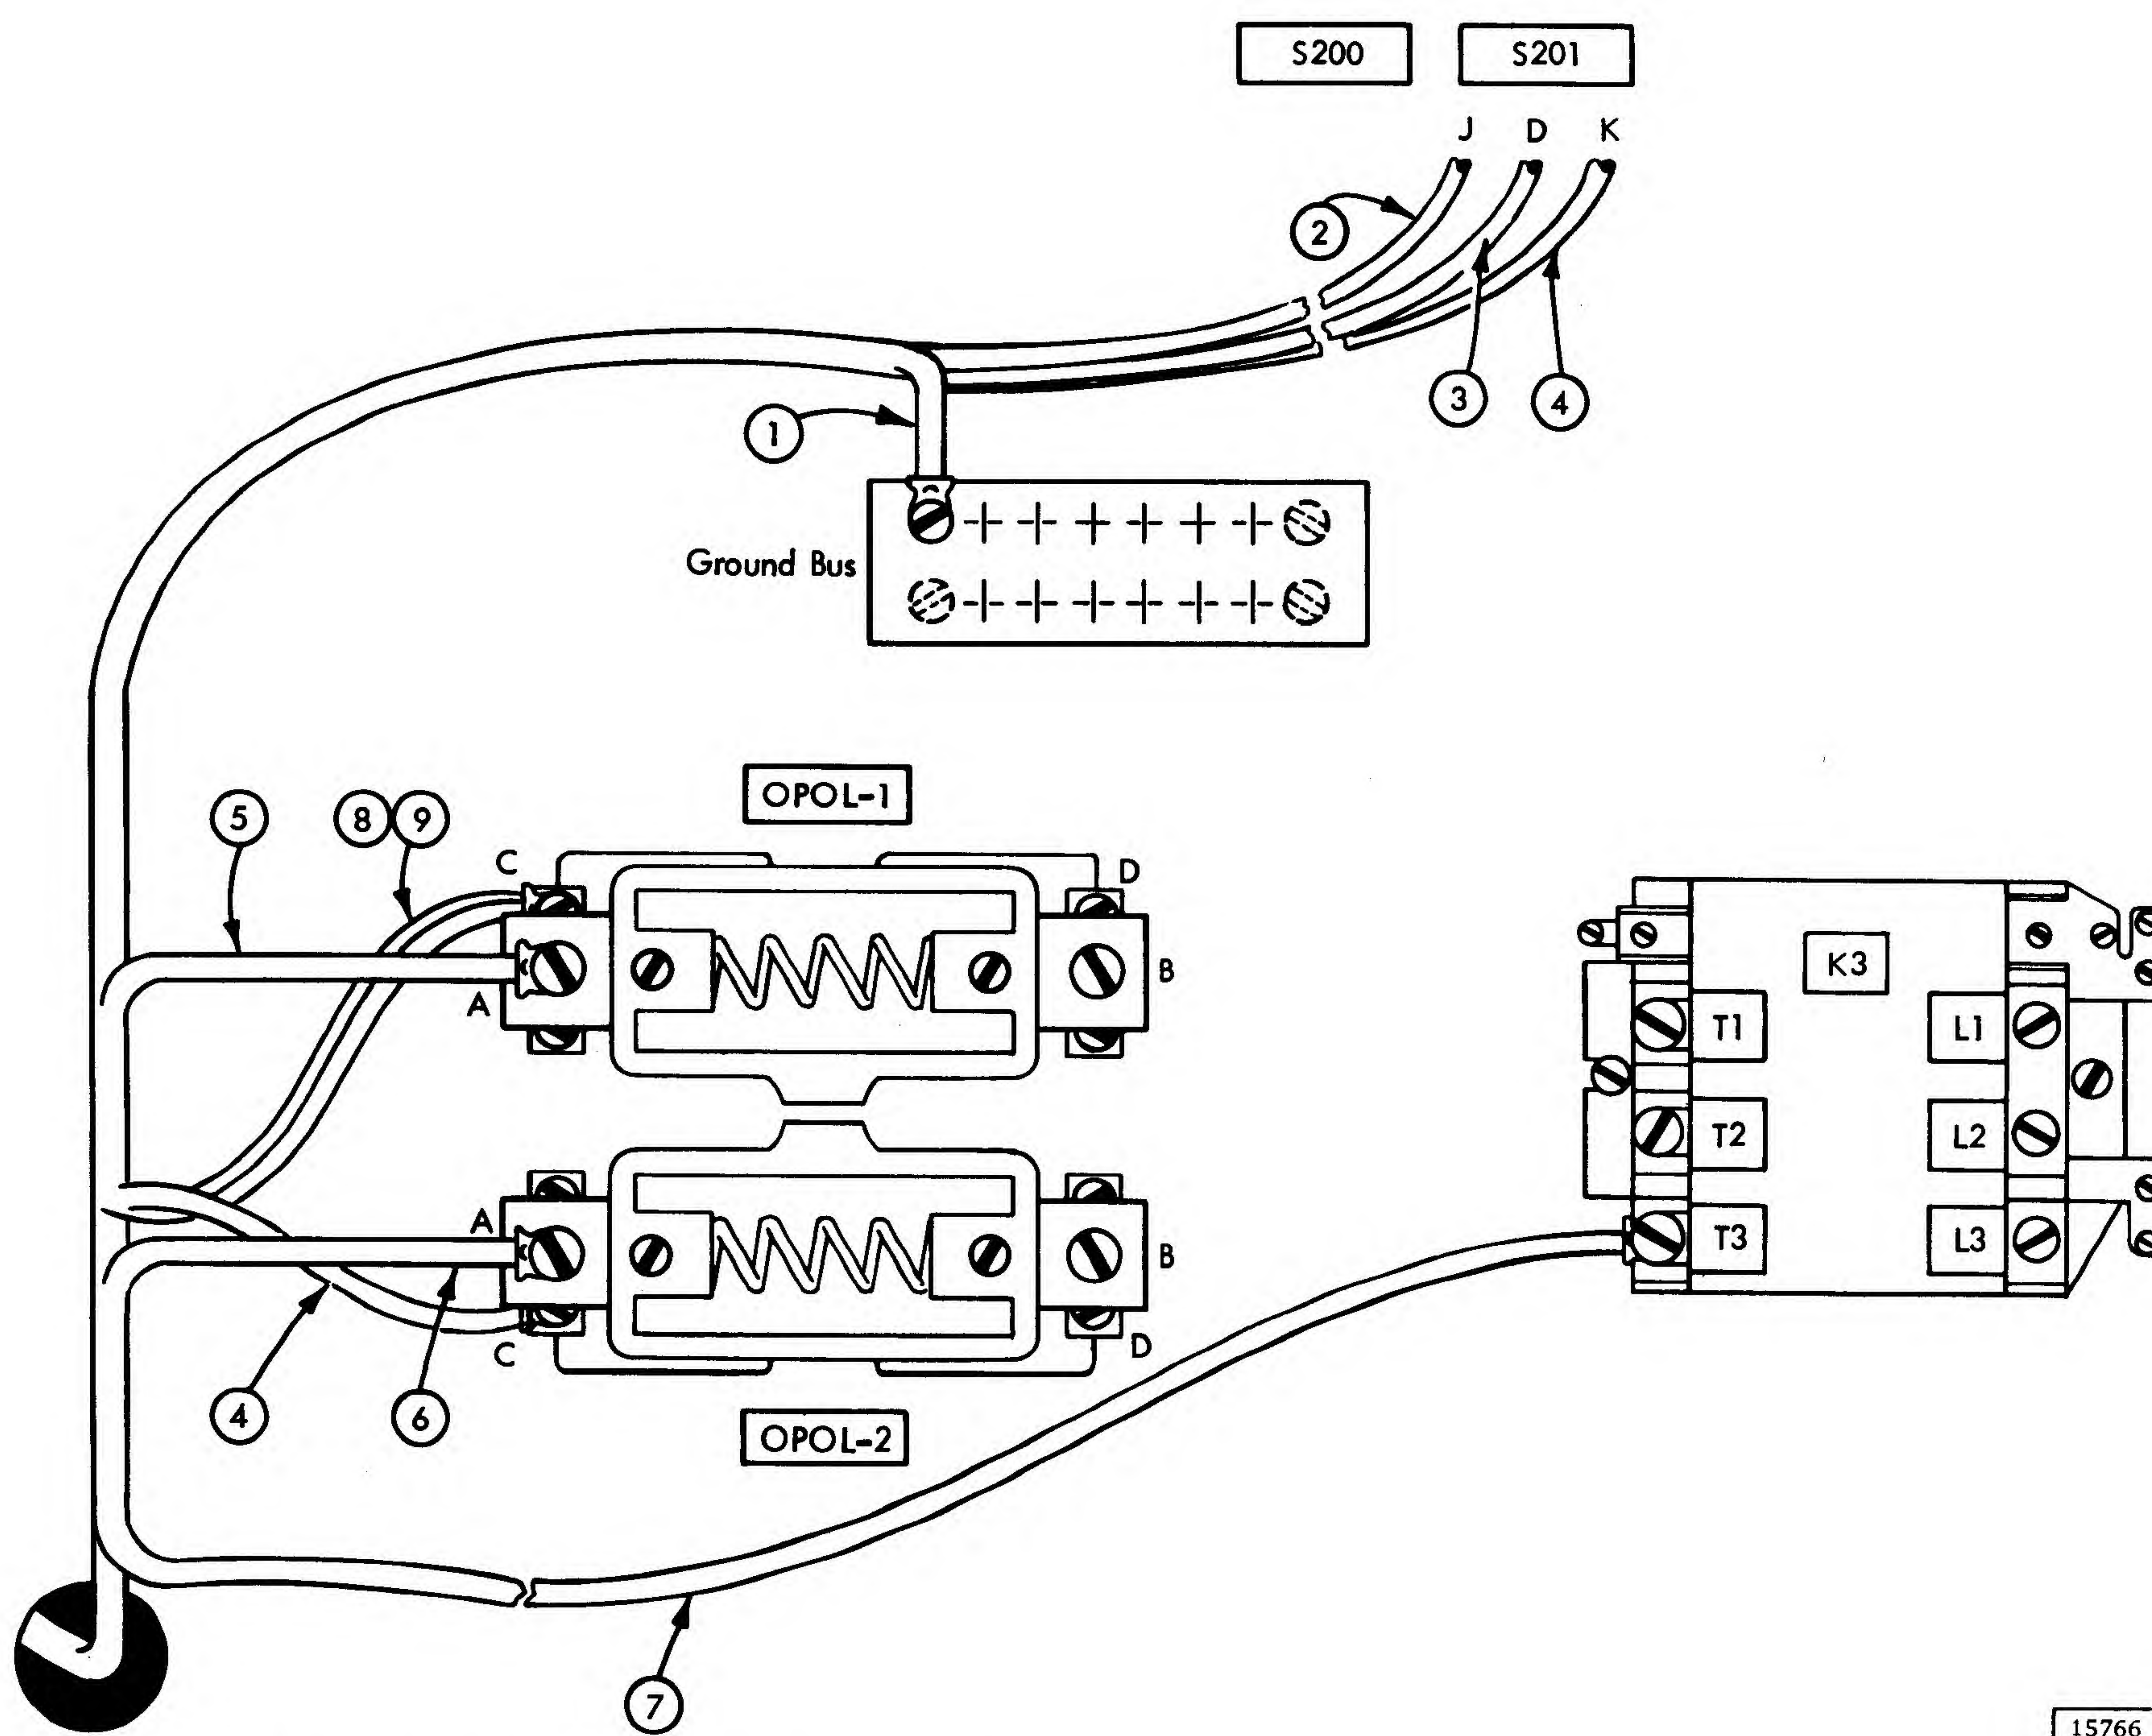
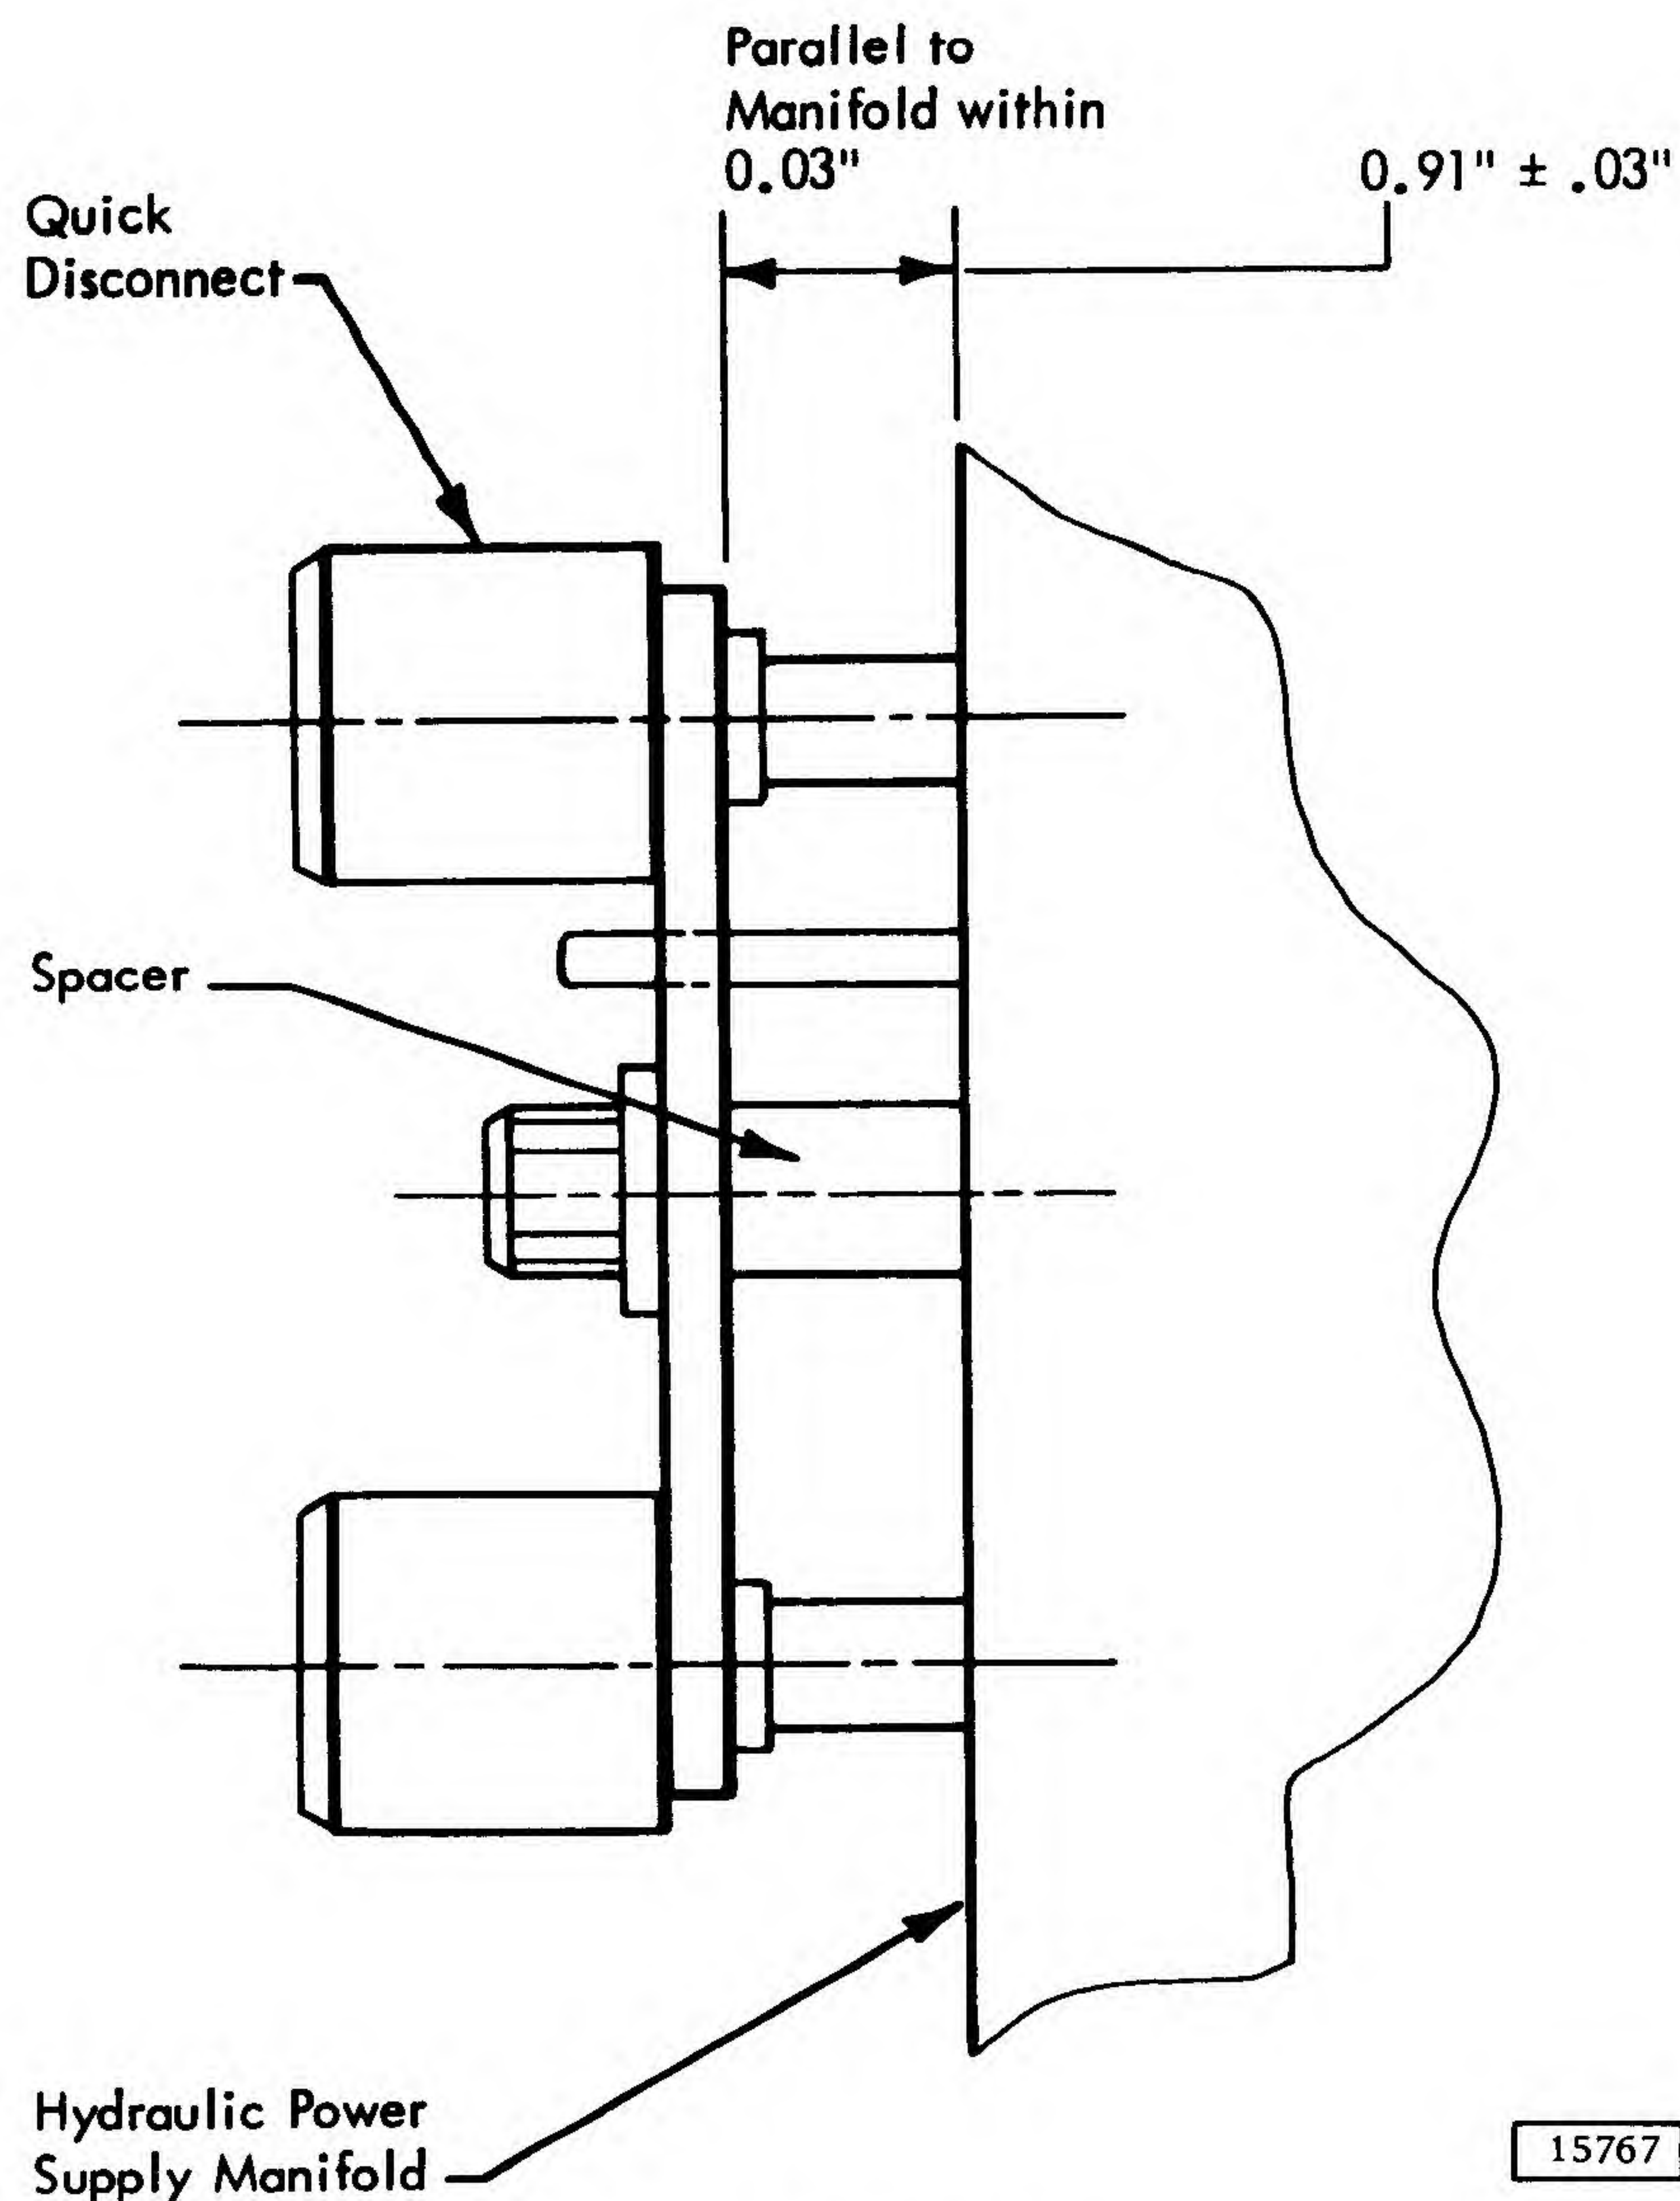

Figure 2-46. Hydraulic Power Supply Contactor Box Connections
Figure 2-47. Hydraulic Quick Disconnect
8. Attach electrical and hydraulic connections and actuator air bleed lines. Figure 2-46 shows contactor box connections. Encircled numbers indicate numbered tags on cable. Refer to Figure 2-47 for hydraulic quick disconnect installation